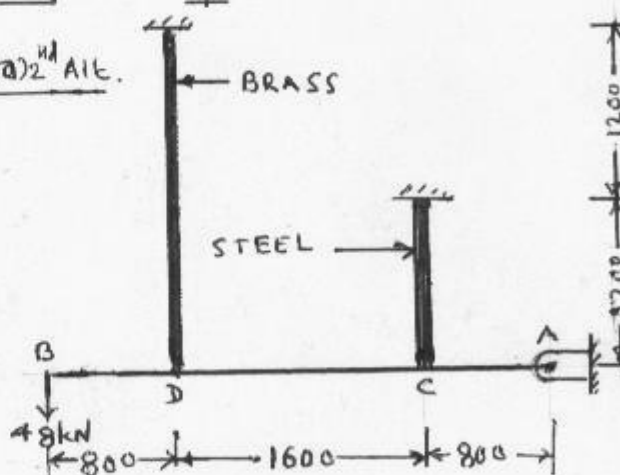

fig 7 Q 4(a) 1st Alt.
Q.4 (a) A rigid horizontal bar AB of negligible weight is hinged at A and supported by 1.2 m long steel rod and 2.4 m long brass rod, both are rigidly fixed at top, as shown in **fig. 7**. A load of 48kN is applied at B. The areas of cross section of the steel and brass rods are 850 mm^2 and 650 mm^2 respectively find